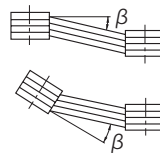

Figure 5-3
(3) When using a V belt
- The parallelism, eccentricity β of the two pulleys should be within 20'. (See Figure 5-3)